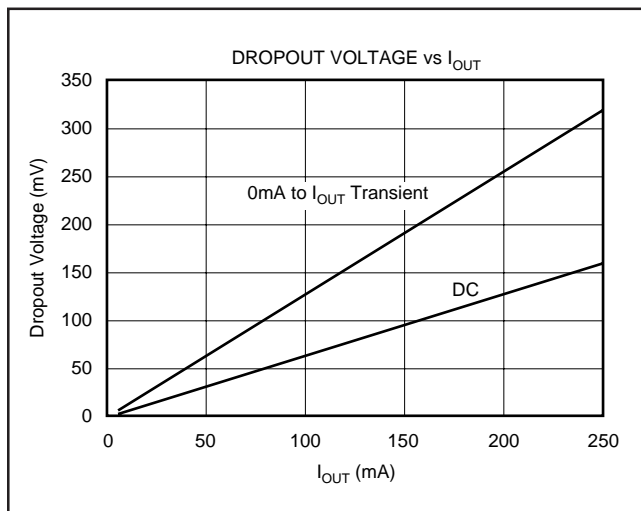

FIGURE 6. Transient and DC Dropout.
The REG102 uses an N-channel DMOS as the pass element. When  $(V_{IN} - V_{OUT})$  is less than the drop-out voltage ( $V_{DROP}$ ), the DMOS pass device behaves like a resistor; therefore, for low values of  $(V_{IN} - V_{OUT})$ , the regulator input-to-output resistance is the  $R_{dsON}$  of the DMOS pass element (typically 600m $\Omega$ ). For static (DC) loads, the REG102 typically maintains regulation down to a  $(V_{IN} - V_{OUT})$  voltage drop of 150mV at full rated output current. In Figure 6, the bottom line (DC dropout) shows the minimum  $V_{IN}$  to  $V_{OUT}$  voltage drop required to prevent dropout under DC load conditions.
For large step changes in load current, the REG102 requires a larger voltage drop across it to avoid degraded transient response. The boundary of this transient drop-out region is shown as the top line in Figure 6 and values of  $V_{IN}$  to  $V_{OUT}$  voltage drop above this line insure normal transient response.